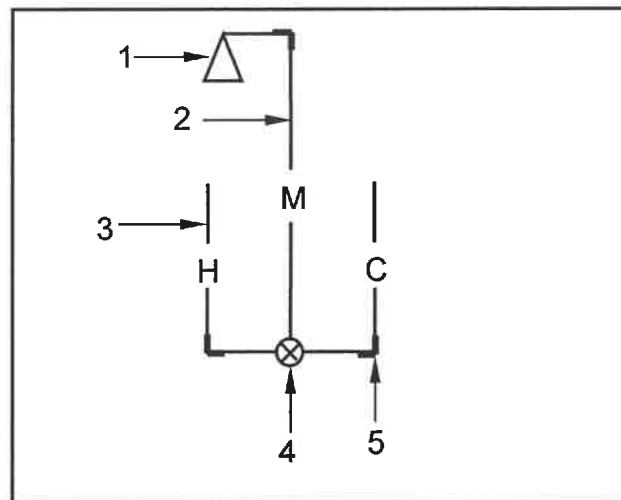

FIGURE 3.4
- 3.4 FIGURE 3.4 below shows part of the layout of a water supply to be used in the bathroom.